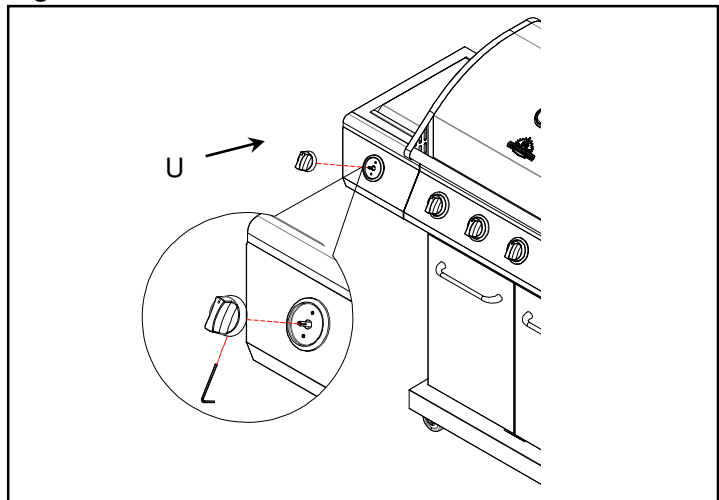

Fig.28
- (f) Plug ignition wire into igniter wire hanging from electrode on underside of burner. See Fig.28.